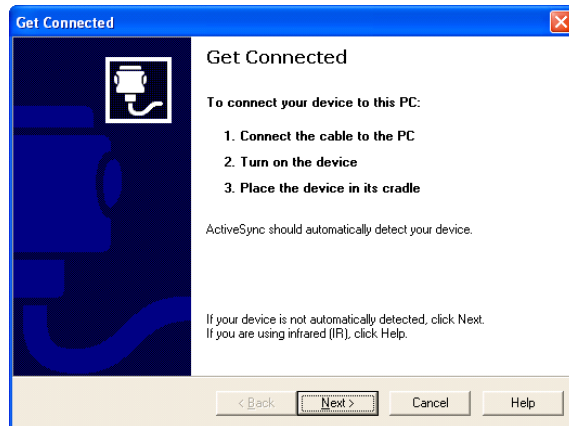

Figure 5.3
3. Hold the installation process when the menu in Figure 5.3 appears. Go to the next procedure **Establish Connection with Your PC** in the next page.